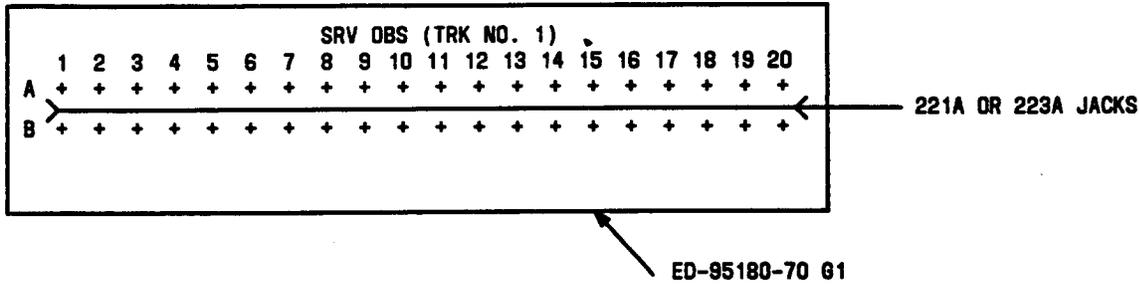

Figure 36—Service Observing Jacks in 40-Capacity Jack Box
4.17 Because of the many combinations of test/talk jacks available, all possible arrangements cannot be illustrated. Generally, existing jack arrangements shown on the office base distributing frame drawing will provide adequate guidelines (see Figure 36 through 42 and Table Q).